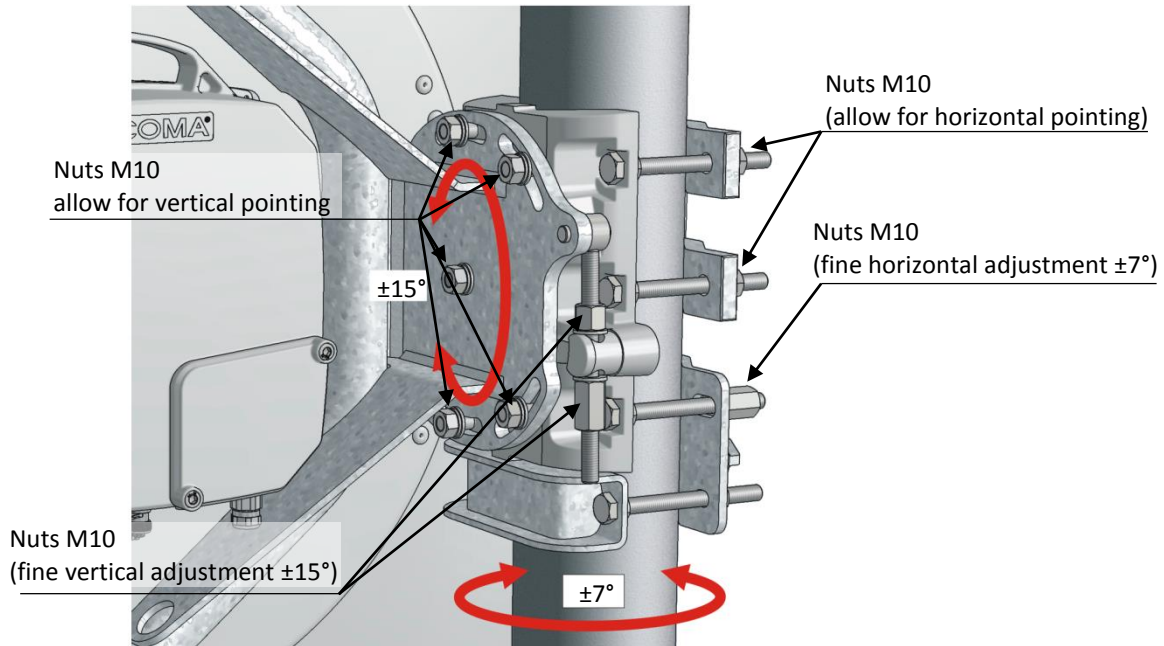

Figure 37 The AL3-xx/ME(MP) antenna pointing (also for the AL4-xx/ME(MP) antenna)
In order to reach the direction stability and resistance against outside loads the antennas AL3-xx/ME(MP), AL4-xx/ME(MP) use a different way of attachment in comparison with smaller antennas. There is a support bracket that prevents sliding of the antenna down along a pipe at the bottom part. There is a special set of brackets above this one for a fine setting in the horizontal and vertical directions (figure 37).